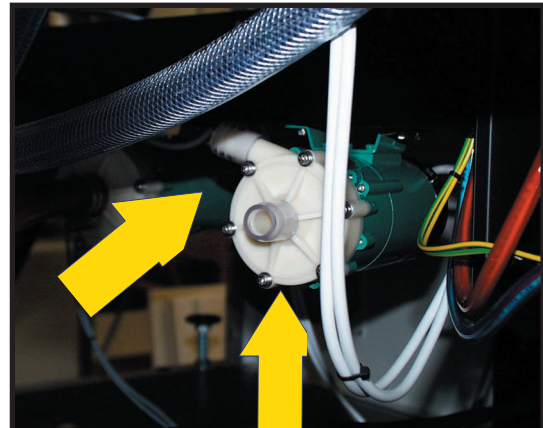

Fig. 4.
3) Mount a piece of clear plastic hose on each stud on the pump to secure tight mounting of the red hose to the pump. Look at Fig. 4.